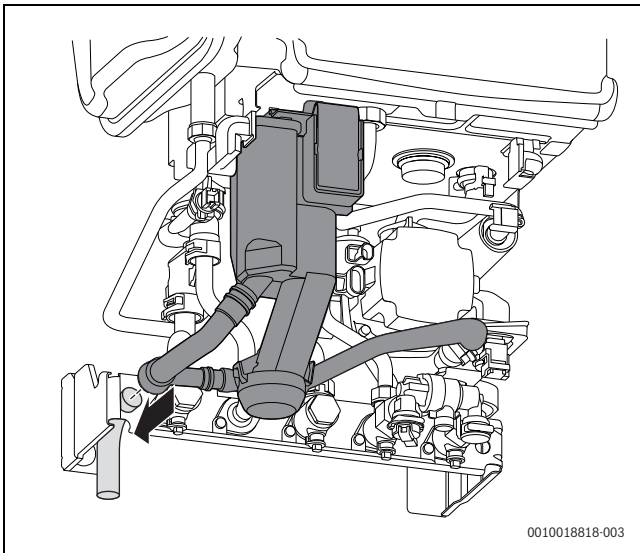

Fig. 51 Condensate connection
- Refer to Fig. 51, condensate connection: